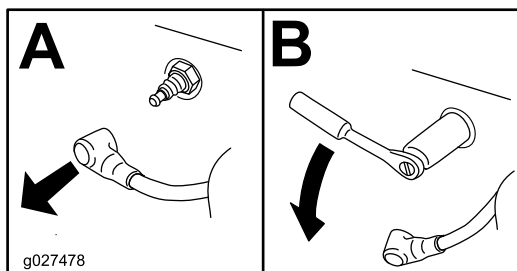

Figure 35
- Remove the spark plug (Figure 35).